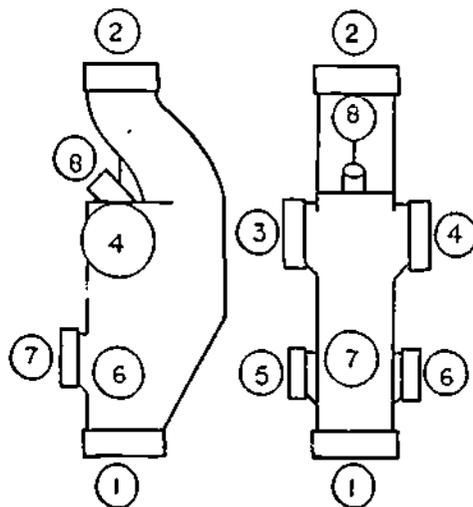

Figure 37-2. Sovent Aerator
11. The Sovent aerator (Figure 37-2) comprises an offset, a mixing chamber, one or two soil inlets, one, two, or three waste inlets, and one or more baffles.
13. In North America, aerators are regulated by Standard B16.32 of the American National Standards Institute. They are designated by the size of openings in the sequency as shown in Figure 37-2.
14. The numbers may be remembered by turning face-inlet 7 toward you and numbering from left to right, taking the upper ones first. Inlet 8 is a pressure-equalizing line (PEL) connection, which is seldom needed. The basic dimensions of common sizes of aerators are shown in Table 37-1. The position of waste inlets 5, 6, and 7 should be taken into account where waste branches cross within drop ceilings. The bracketed numbers in Table 37-1 correspond to those circled in Figure 37-2.